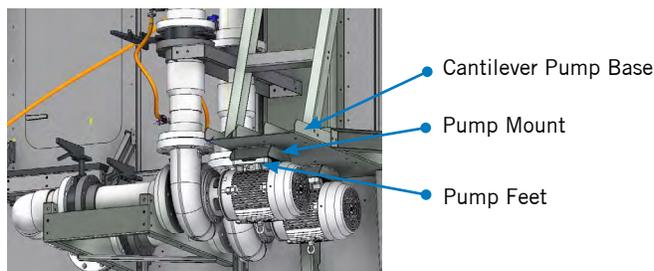

Figure 15.
5. Loosen and remove hardware that fastens the pump mount to the cantilever pump base or remove the hardware that fastens the pump feet to the pump mount. See **Figure 15**.
1. Attach hardware that fastens the pump mount to the cantilever pump base or attach the hardware that fastens the pump feet to the pump mount. See **Figure 15**.